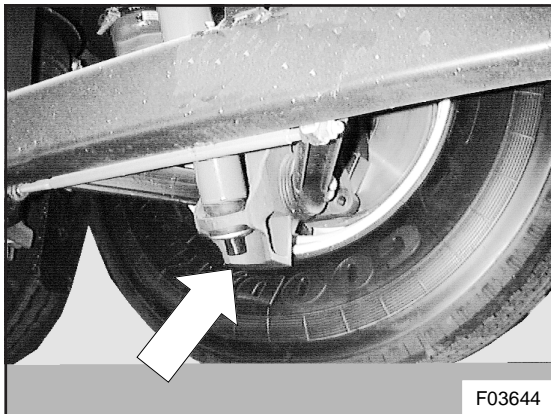

Figure 8: Tag axle hub carrier jacking points
- Tag axle hub carrier (see Figure 8) to fit turntable for wheel alignment purposes only.